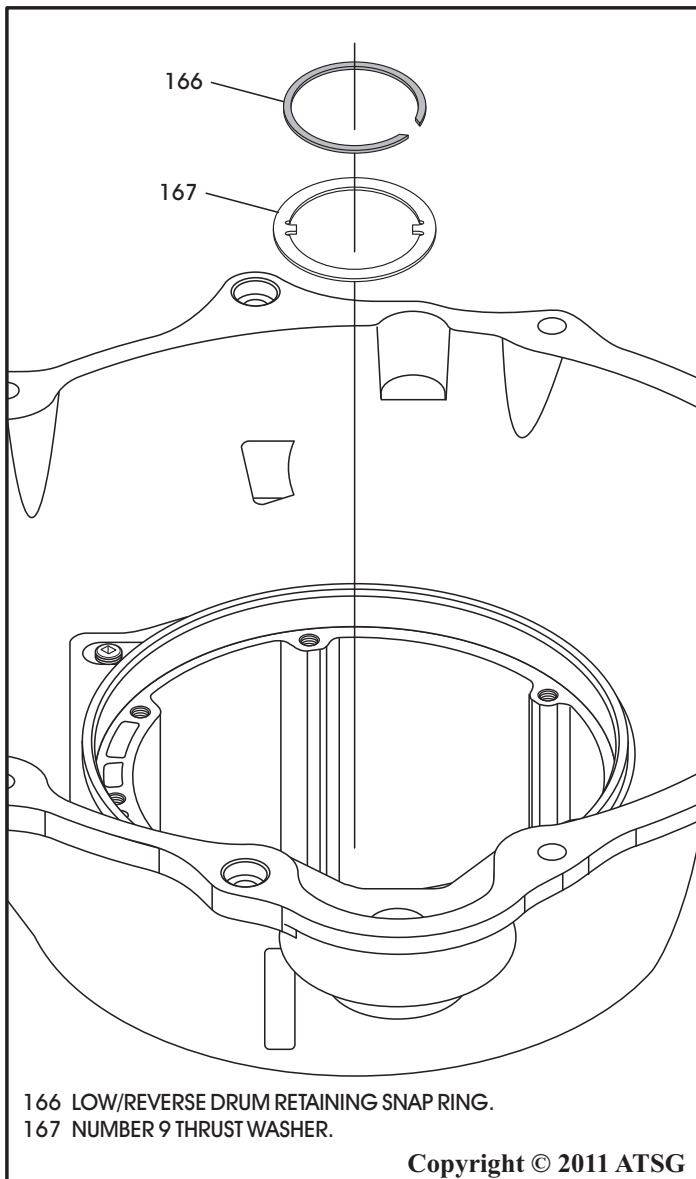

Figure 219
5. Install number 9 thrust washer on low/reverse drum assembly, as shown in Figure 219.
6. Install the snap ring into groove of the overdrive piston retainer, as shown in Figure 219, and ensure that it is fully seated.